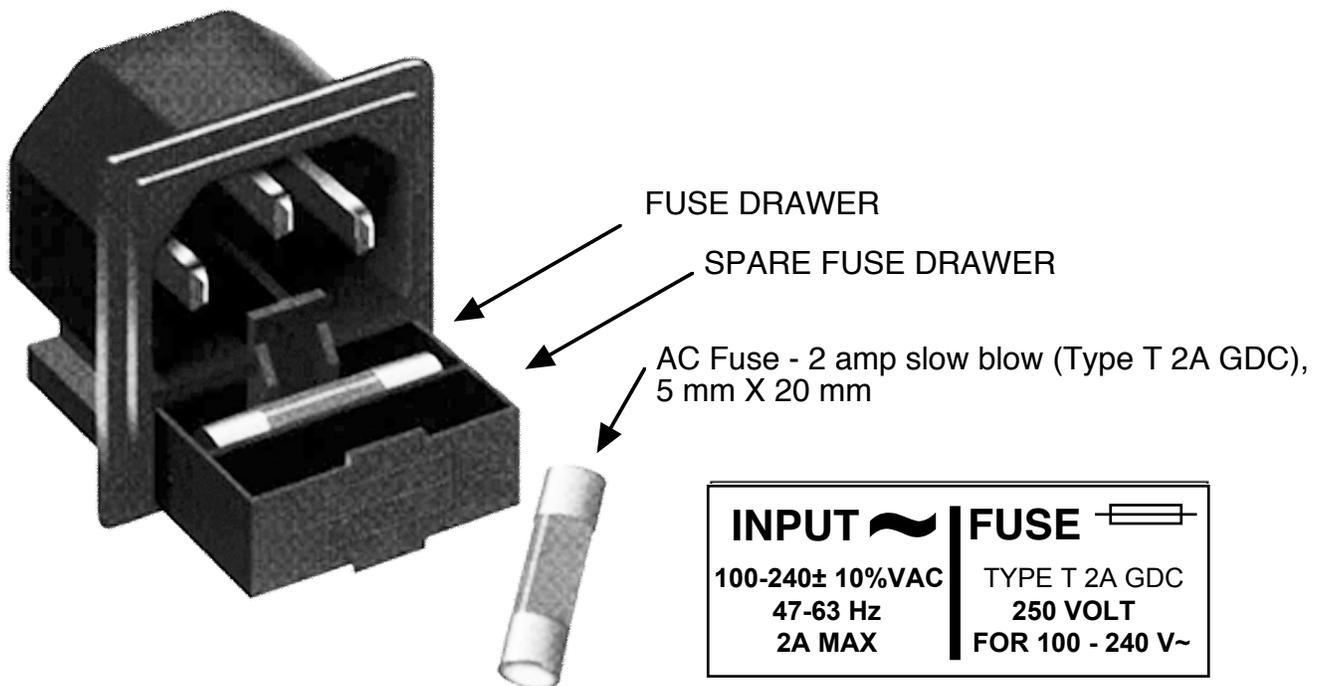

Figure 2.3 Fuse Location and Spare Fuse
7. **AC Fuse** - The fuse is a 5 mm X 20 mm, 2 amp slow blow (Type T) and is inserted in the far slot in the drawer below the AC input as shown in Figure 2.3. There is a spare fuse in the near slot. If a fuse continues to open, the power supply is most likely defective.